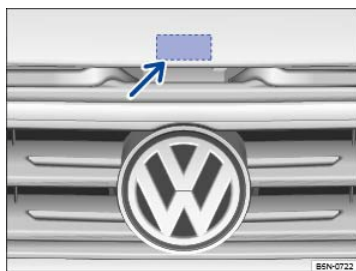

Fig. 214 Above the radiator grille: Outside engine hood release.
- Push the outside hood release lever \Rightarrow Fig. 214 (arrow) and lift the hood all the way up. A gas-filled strut will hold the hood up.